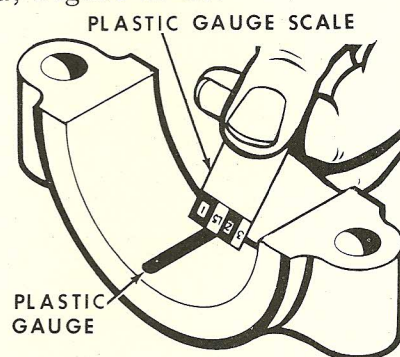

Figure M-28
5. Compare the flattened gauge material at its widest point with the scale that is furnished, Figure M-28.